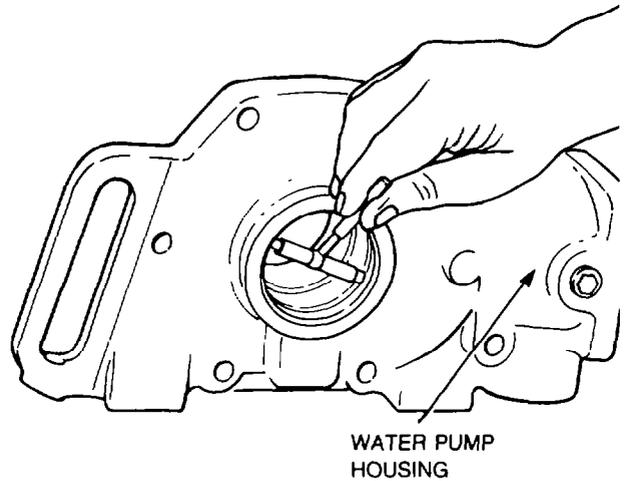

Figure 65 — Measuring Housing Bore
- h. Inspect the water pump housing for cracks or damage caused by a bearing spinning in the housing and ensure that the weep hole is open. Measure the housing bore as shown in Fig. 65 and